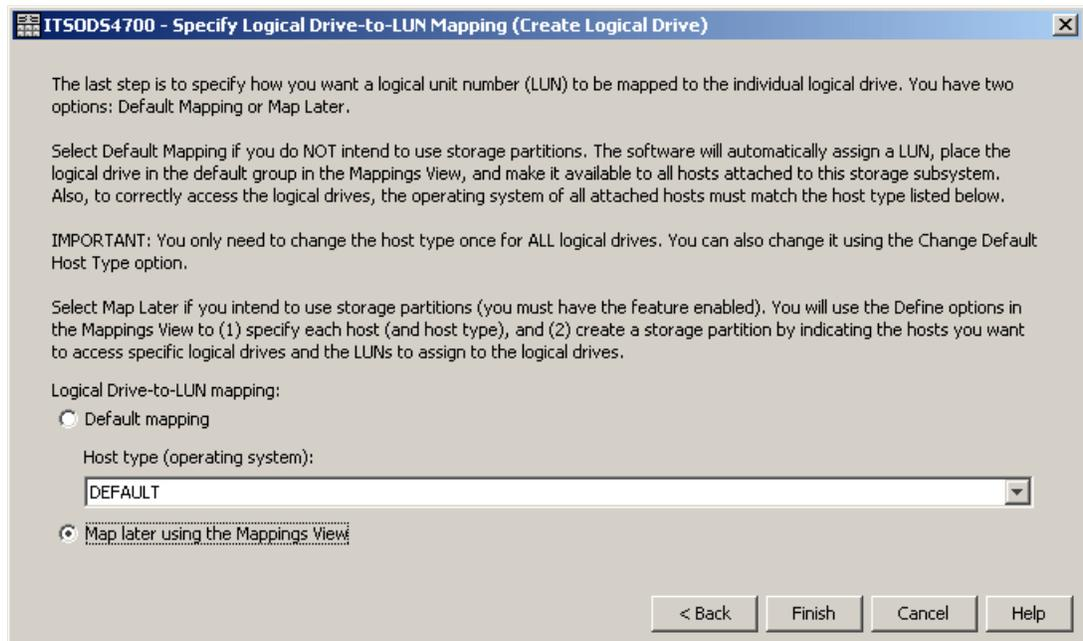

Figure 5-56 Logical drive mapping
8. The Specify Logical Drive-to-LUN Mapping dialog appears (Figure 5-56). This step allows you to choose between mapping your created logical drive to the default group, or to map later using the mappings view. If you choose **Default mapping** then the physical volume is mapped to the default host group and is available to any host zoned to the DS4000, so we do not recommend this option if your DS4000 supports more than a single partition.